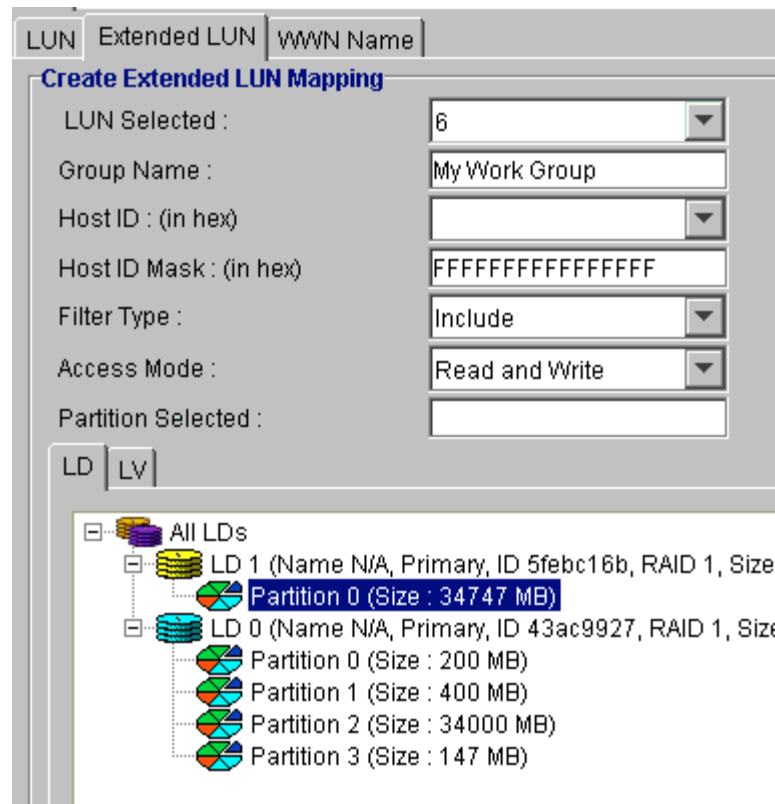

Figure 9-22: Create Extended LUN Mapping
Step 3. A *Create Extended LUN Mapping* window, as shown in *Figure 9-22*, should appear in the content panel.
Step 3. A *Create WWN Name Mapping* window, as shown in *Figure 9-22*, should appear in the content panel.